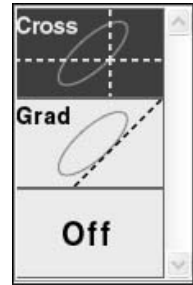

Fig.6-6 Cursor menu
- ① Press  to display the cursor menu shown in Fig.6-6.
- ② Move the edition cursor to an item to be set and press  to determine the setting.